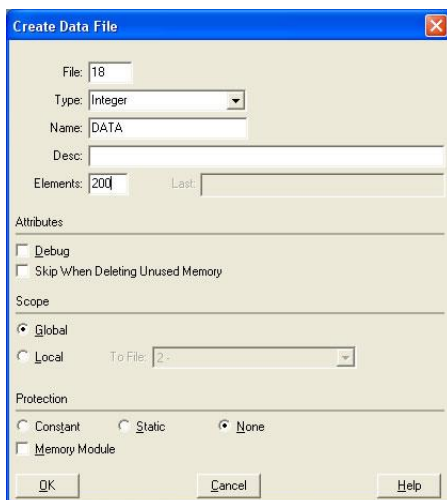

Figure 62: Creating a Data File
- c) Follow the same procedure to create a data file. This file will be used to store the incoming data read from the interface card. Enter a file number (e.g. 18), set the type to "Integer", enter a descriptive name (e.g. "DATA"), and enter a number of elements (e.g. 200). Refer to Figure 62. Click OK to create the file.